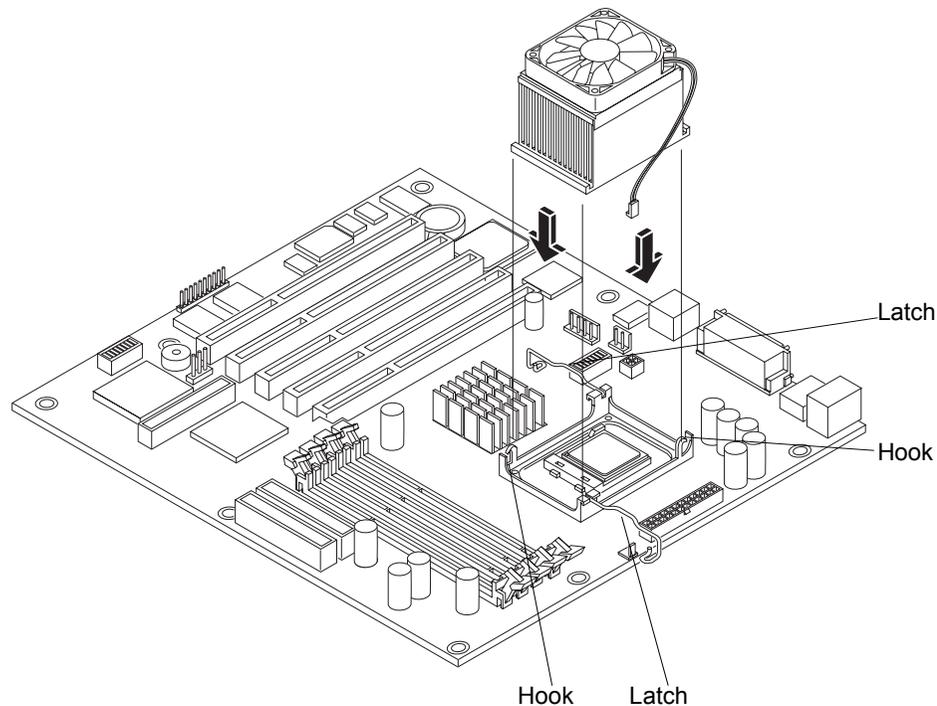

Figure 3-18. Replacing Heat Sink and Cooling Fan
2. Hold the heat sink in place and close the latches to secure the heat sink to the bracket. Make sure the latches engage the hooks on the heat sink bracket. See Figure 3-18.